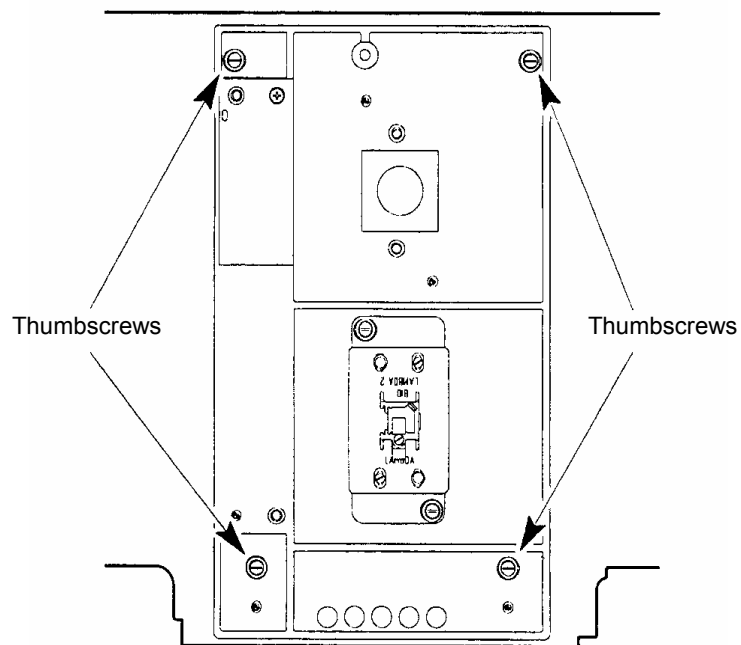

Figure 14 Four thumbscrews on the sample compartment baseplate
3. Undo the four thumbscrews shown in Figure 14.